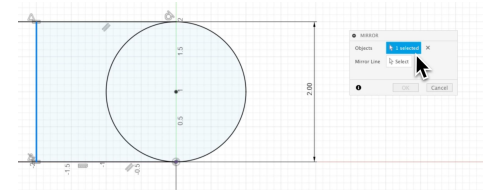

Figure 1.8
- After selecting the ‘**Mirror**’ option, a new box will pop up where you can select which object you want to mirror. (see Figure 1.8)